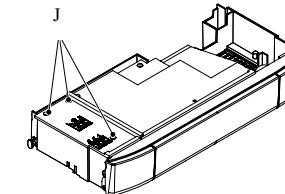

Fig. 5.16
- 4 Loosen the screws J and remove the service panel (Fig. 5.16).